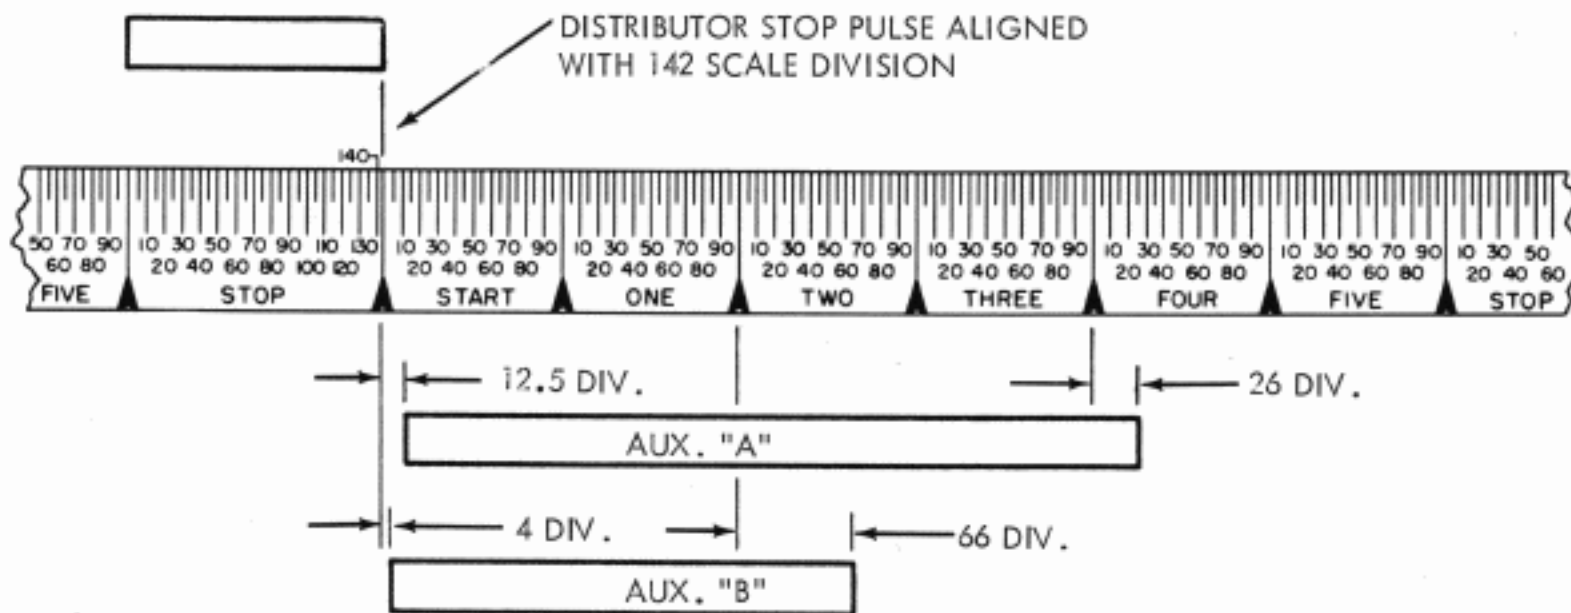

FIGURE 19. LBXD19 TRANSMITTER AUXILIARY CONTACT REQUIREMENTS
(4) Transmitter Auxiliary Contacts (See Figure 19)